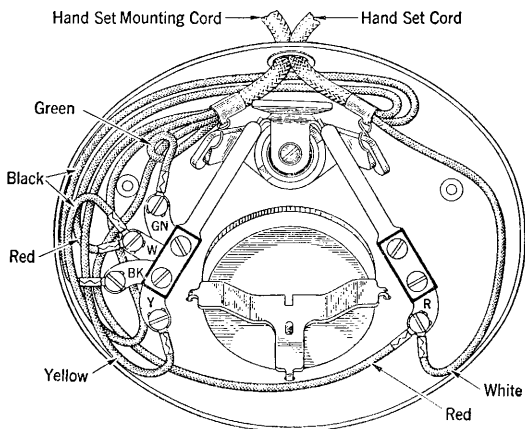

**Fig. 1—D1 Type Hand Set Mounting.**
1.01 This addendum supplements Section C32.164, Issue 1. It was previously issued to add cording for the 103A, B, C, 205G, H, J, 206M, N and P hand telephone sets, to include precautionary information regarding the contact of cord tips with a dial mounting screw and to change the designation of Figs. 1, 2, 3, and 4 of Addendum C32.164, Issue 1, to Figs. 25, 26, 27 and 28, respectively.